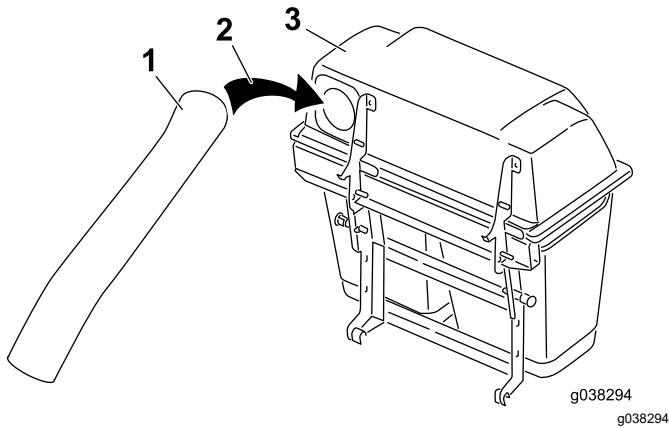

Figure 32
3. Install the upper tube into the bagger opening and pull it back out so that the hopper seal is protruding out (Figure 32).